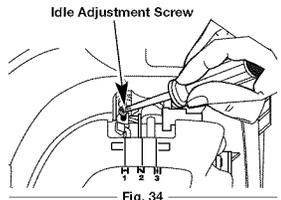

Fig. 34
The idle speed of the engine is adjustable. An idle adjustment screw is between the air filter cover and the engine starter housing (Fig. 34).
- Release the throttle trigger and let the engine idle. If the engine stops, insert a small phillips in between the Air Filter Cover and the Engine Cover (Fig. 34). Turn the idle speed screw in, clockwise, 1/8 of a turn at a time (as needed) until the engine idles smoothly.